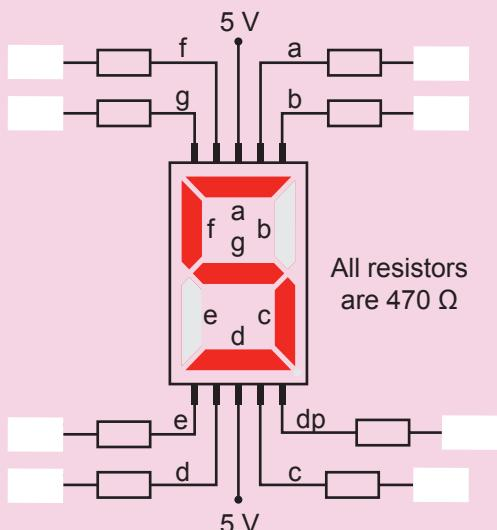

Figure 7.50
2. Fill in '0 V' or '5 V' in each of the white boxes in Figure 7.50 so that the digit '5' is displayed on the common-anode 7-segment display.